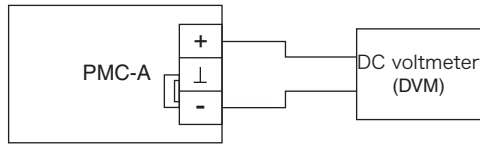

Fig. 6-2 Connection for voltage system calibration
2. Connect the cables as shown in Fig. 6-2.